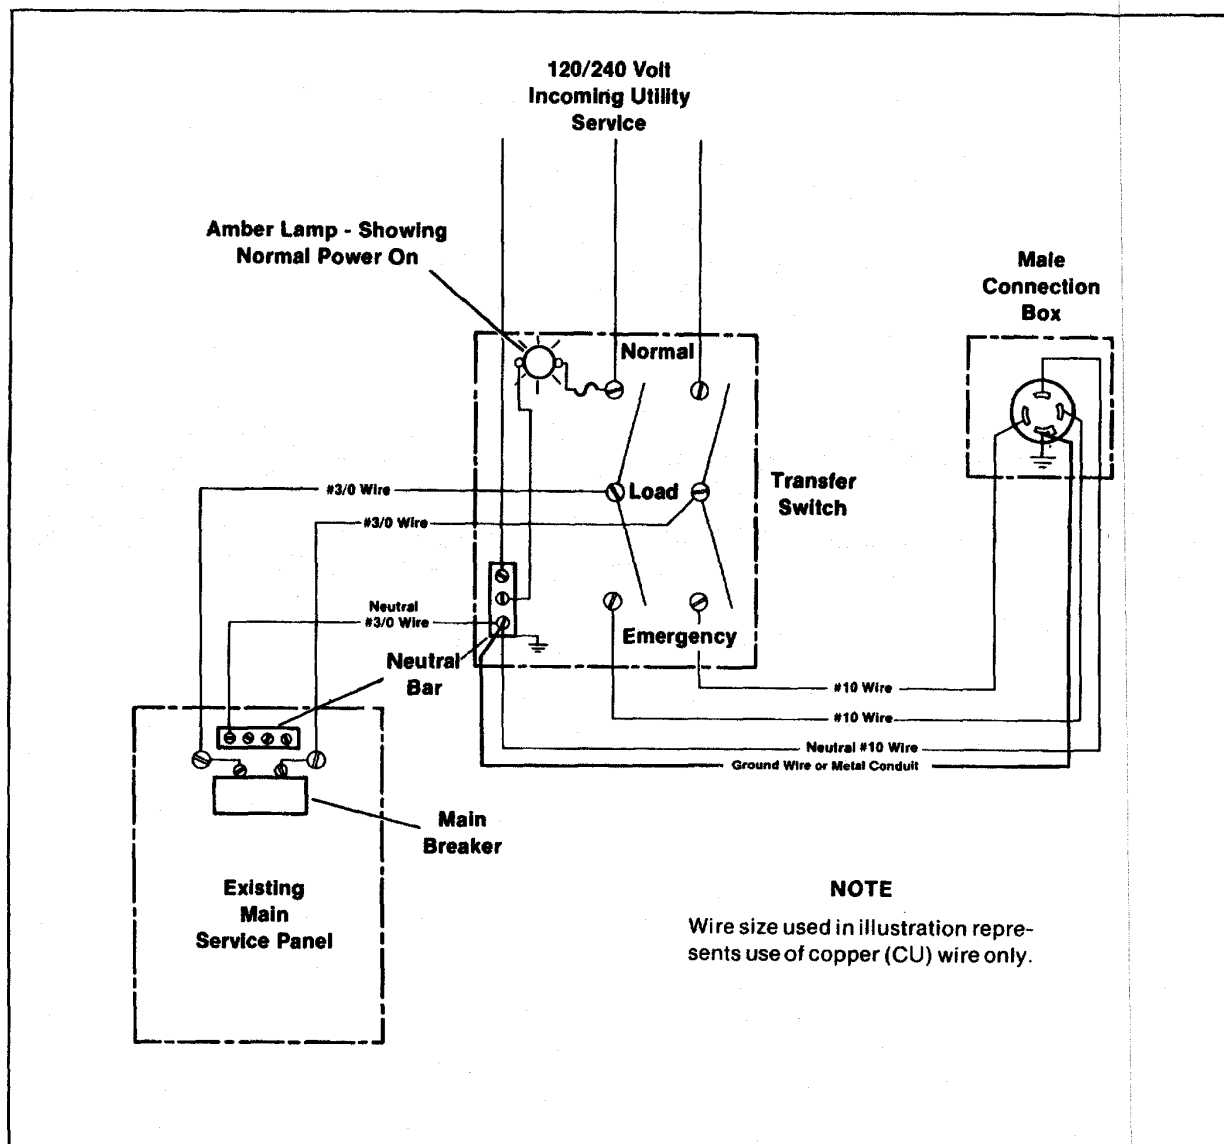

Figure 2-8. 200/100 Amp. Switch Connection
5. Connect neutral lead (white taped) from transfer switch neutral bar to main service panel neutral bar. See Figure 2-8.
6. Connect leads from LOAD bus lugs of transfer switch to service panel main breakers as shown in Figure 2-8.
7. Punch entrance knockout in transfer switch box, install connector, and route cable or wires and conduit from connection box into transfer switch box. Connect wires as follows (see Figure 2-8).